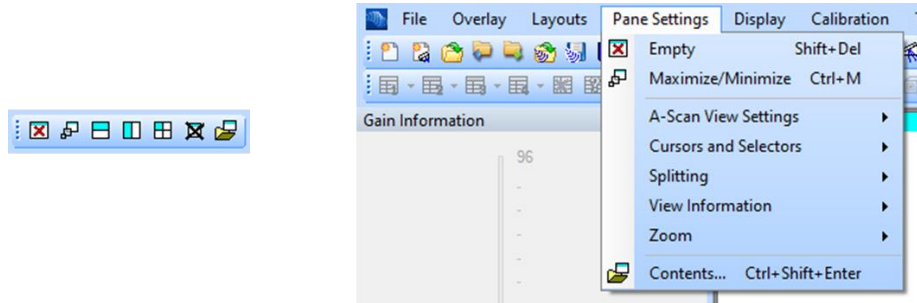

Figure 5 Configuring views and layouts using Pane Settings
- To configure the layout of views, use the Pane Settings toolbar/menu (Figure 5)